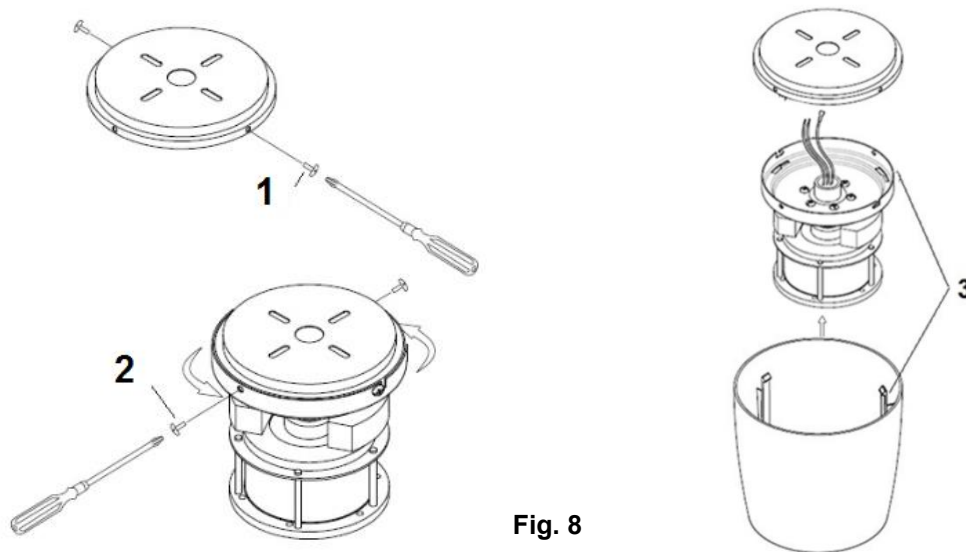

Fig. 8
- Loosen 2 screws (2) from the mounting bracket. Fig.8
- Loosen 2 screws (1) by half thread from the mounting bracket. Fig. 8
- Lift the hanging plate of the fan assembly up to the mounting bracket and let the L-shape slot on the hanging plate go through the screws (1) on the mounting bracket. Turn the hanging plate until it locks in place at the end section of the L-shape slot and secure it by tightening the two screws (2). Avoid damaging the electrical wiring prepared previously.
- Finally attach the motor housing to the hanging plate and secure it by pushing the hooks (3) into the slot holes and turn it anti clockwise.